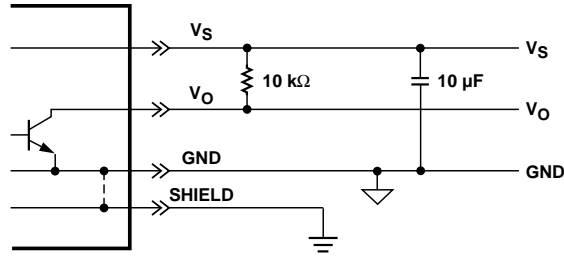
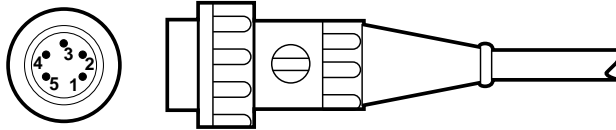
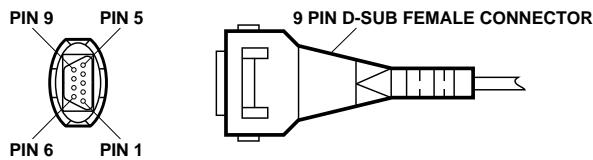

Figure 2. Recommended Interface.
Figure 3. Connector Configuration for HBCS-71X0.
Figure 4. Connector Configuration for HBCS-71X8.
6. The shield must be properly terminated (See Figure 2). The human body is modeled by discharging a 300 pF capacitor through a 500 Ω resistor. No damage to the slot reader will occur at the specified level.
The slot reader has two different standard connectors: a 5 pin, 240 metal locking DIN; or a 9 pin female D-sub squeeze to release. The recommended interface is shown in Figure 2. The mechanical specifications for the 5 pin DIN are shown in Figure 3. The mechanical specifications for the 9 pin D-sub are shown in Figure 4.